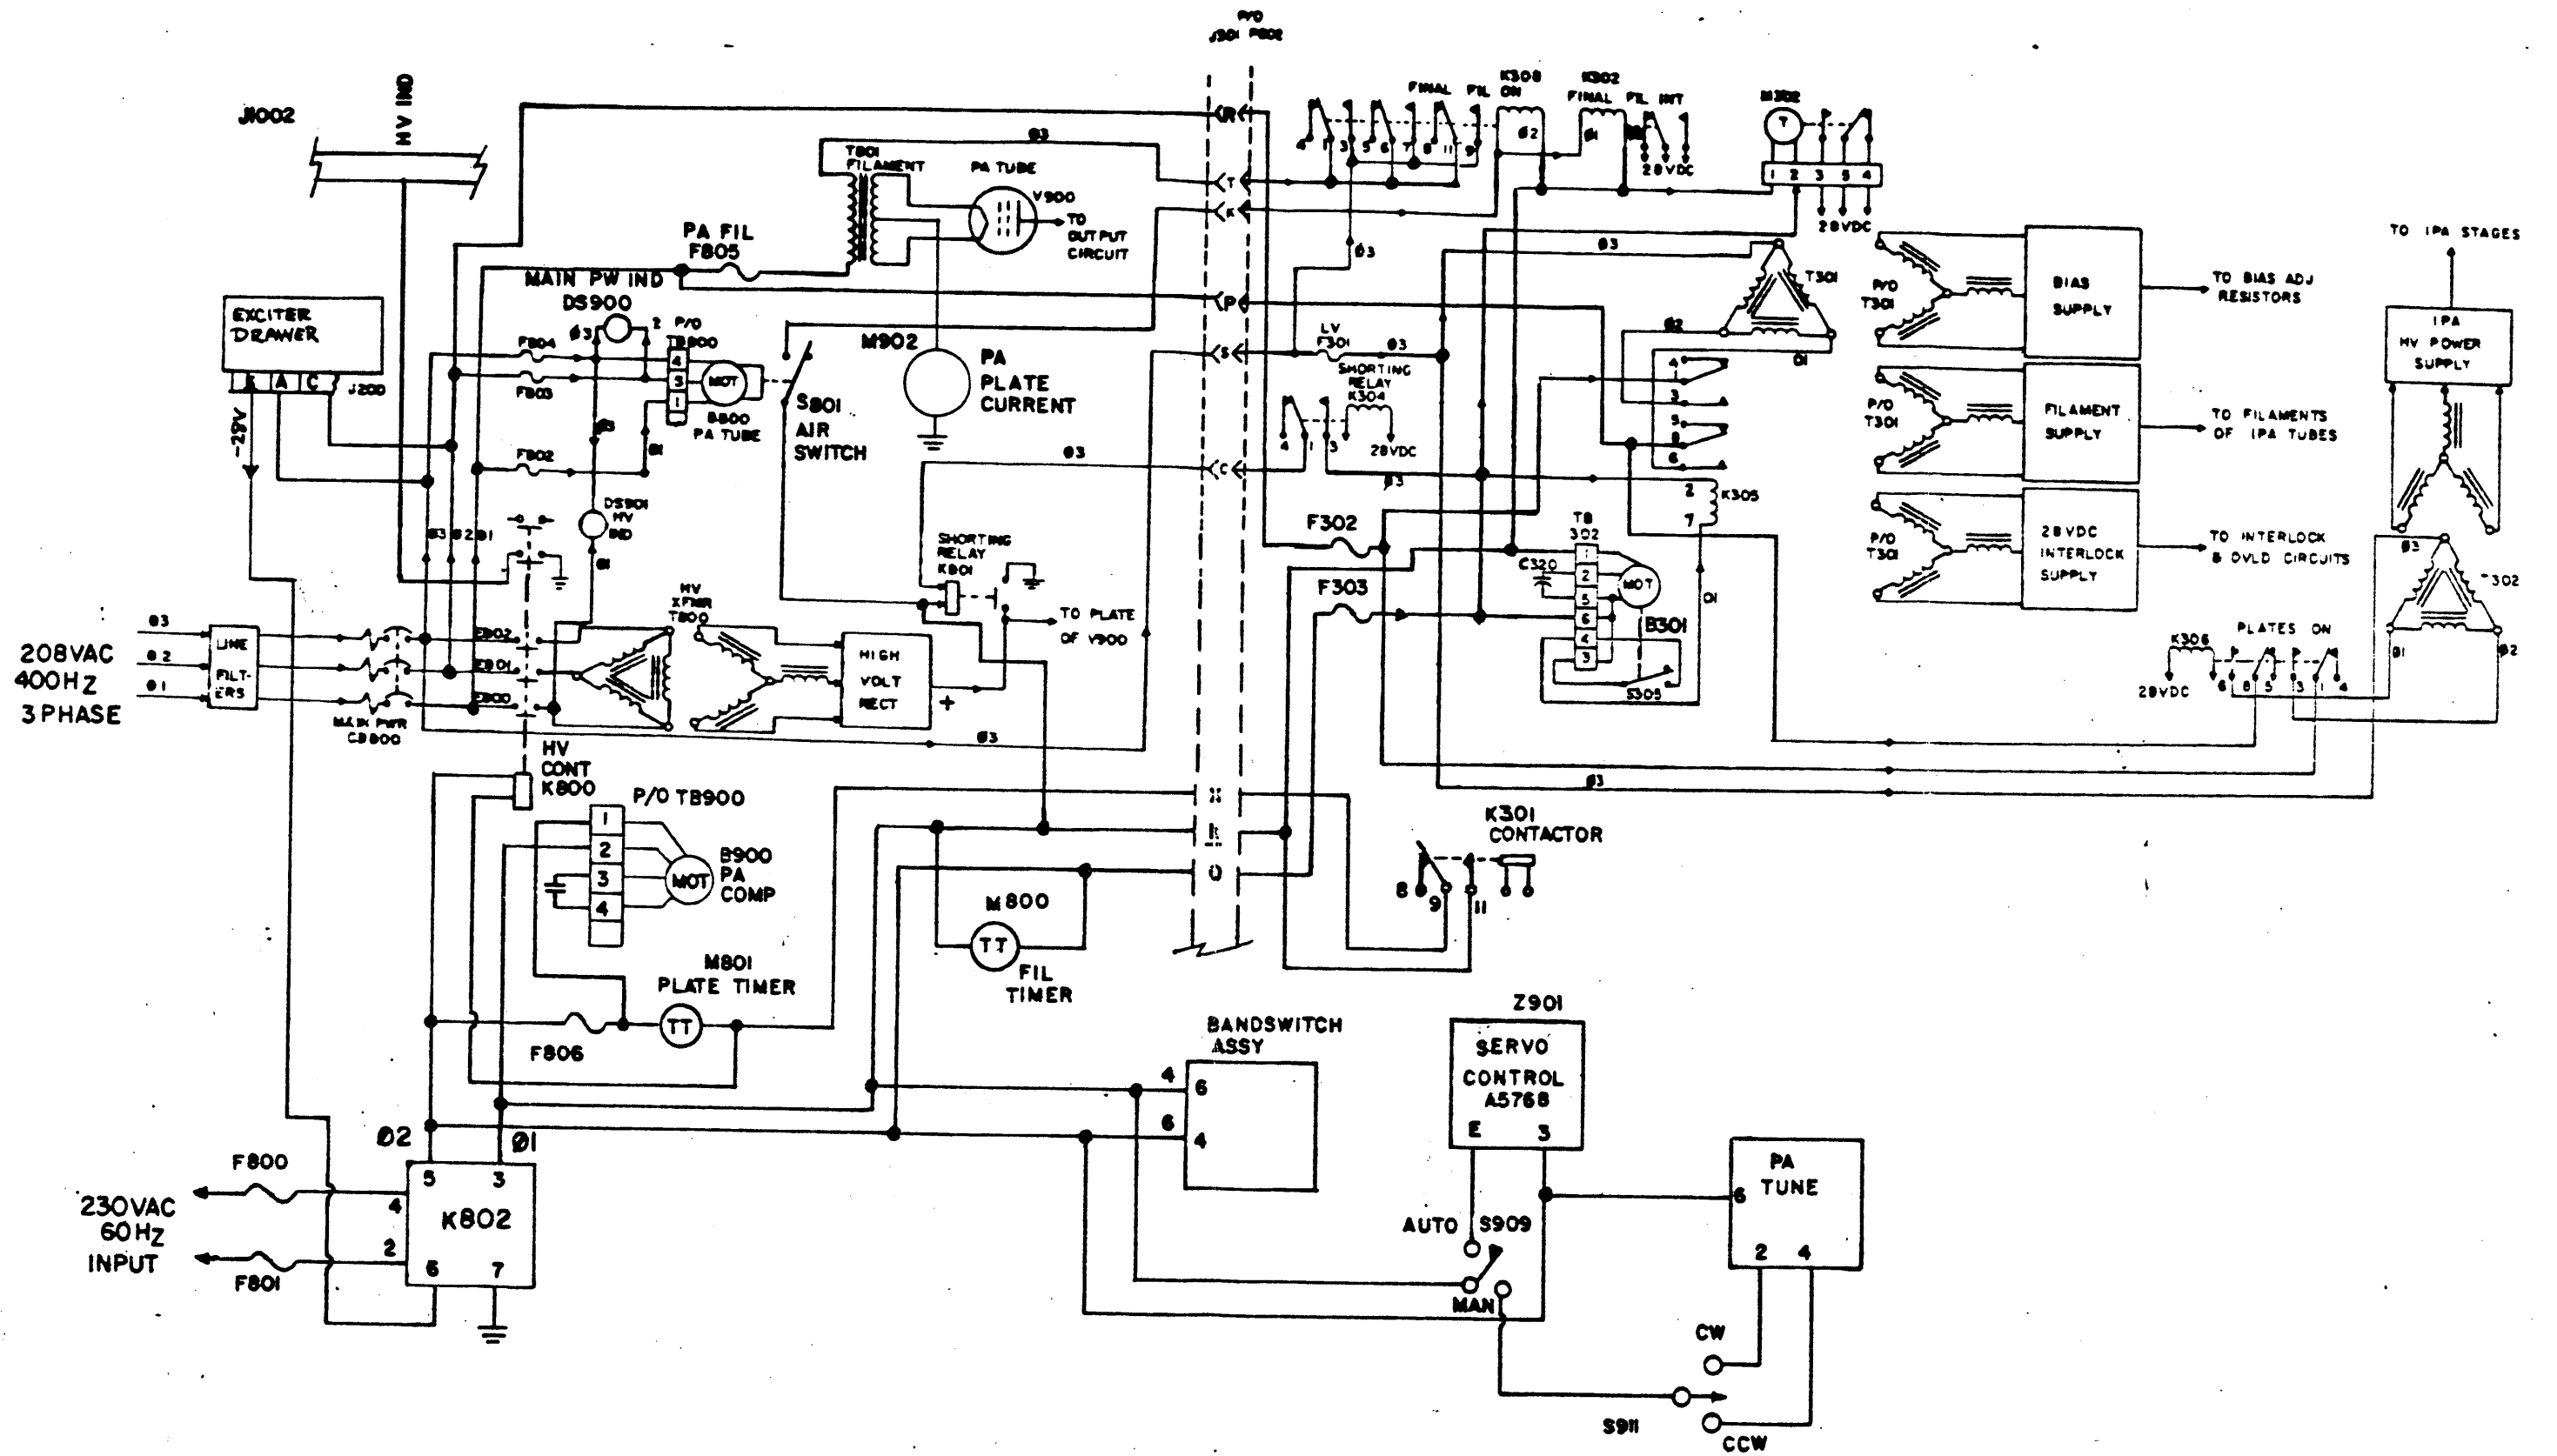

Figure 4-1
b. PRIMARY INPUT POWER VOLTAGE CIRCUITS (refer to figures 4-1, 6-2).
The MFT-10K/J Transmitter requires two sources of primary input power. A 208 vac 400Hz 3 phase input and a 230 vac 60Hz input. Primary power inputs enter the transmitter through the lower left hand side of the power supply compartment. A partial explanation of the routing is explained in the following paragraphs (see figure 4-1).
208VDC 400Hz. The 208 vac 400Hz 3 phase input source is interrupted by the main power circuit breaker CB800. When CB800 is closed phase 2 and 3 of the 3 phase source is routed to the exciter drawer at P801 pins A and C. This power source supplies AC for the -28 vdc power supply in the exciter drawer. Phase 1, 2, 3 are carried to K800 contacts (High Voltage Contactor). The contacts of K800 are closed when a 230 vac 60Hz input is placed across K800 coil. K800 when energized will place 208 vac 400Hz 3 phases across T800 High Voltage Transformer. The High Voltage lamp DS901 will now light. One set of contacts of K800 when closed will send a ground signal out to J1002 to be used for remote control High Voltage Indication. Phases 1,2 and 3 are routed to P802 of the driver drawer at pins P, R, and S and to B800 the blower for the PA tube. B800 blower supplies forced air cooling to the base of the PA Tube V900 and also forces the air vane of switch S801 to close. Phase 1 is placed on one side of the filament transformer T801 at pin 2. Phase 2 and 3 will light the Main Power lamp DS900. Fuses for all of the formentioned 3 phase routing are illustrated in figure 4-1 and figure 6-2.